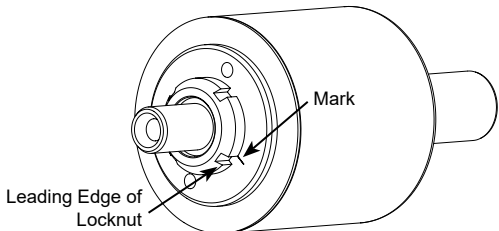

FIGURE 17
4. Slide the inner magnet onto the shaft and engage the pin of magnet into hole of thrust washer. Install the locknut, beveled edge out, set torque to measurements given in Table 5. Place a mark on the trailing edge of the locknut slot. Refer to Figure 17. Back off the locknut until the leading edge of that same slot lines up with the mark. This will establish the proper clearance for the thrust washers.